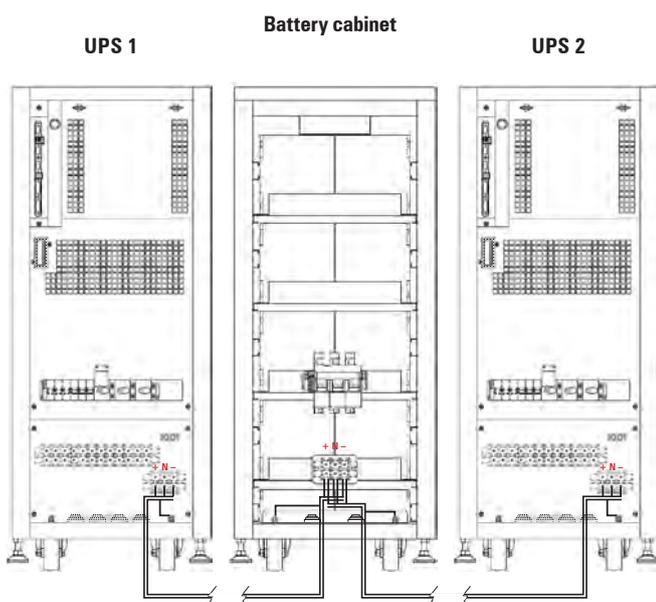

Fig. 35. Example of connection of two UPSs in parallel and a common battery set.
The connection of each UPS with the battery cabinet will be done with the supplied cable bundle, by connecting one side to terminals (X11), (X23) and (X12) of UPS and the other one to terminals (X47), (X49) and (X48) of battery module, always respecting the stated polarity on the labelling of each element and this manual, as well as the colour of the cables (red for positive, black for negative, blue for middle tap (N) and green-yellow for earth bonding), see Fig. 35.